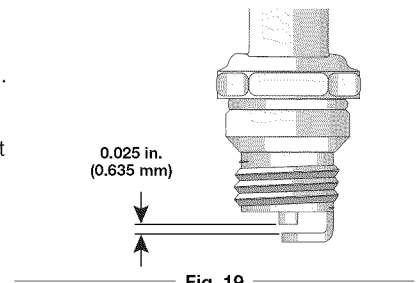

Fig. 19
- Replace cracked, fouled or dirty spark plug. Set the air gap at 0.025 in. (0.635 mm) using a feeler gauge (Fig. 19).